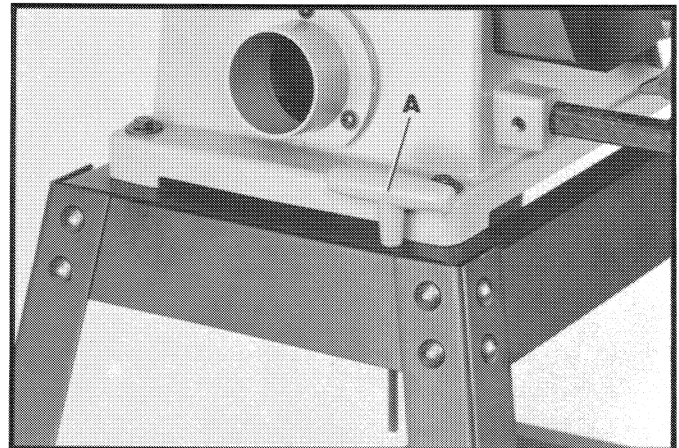

Fig. 38
A hole is provided in the stand for storing the hex wrench (A) Fig. 38, supplied with the sander.